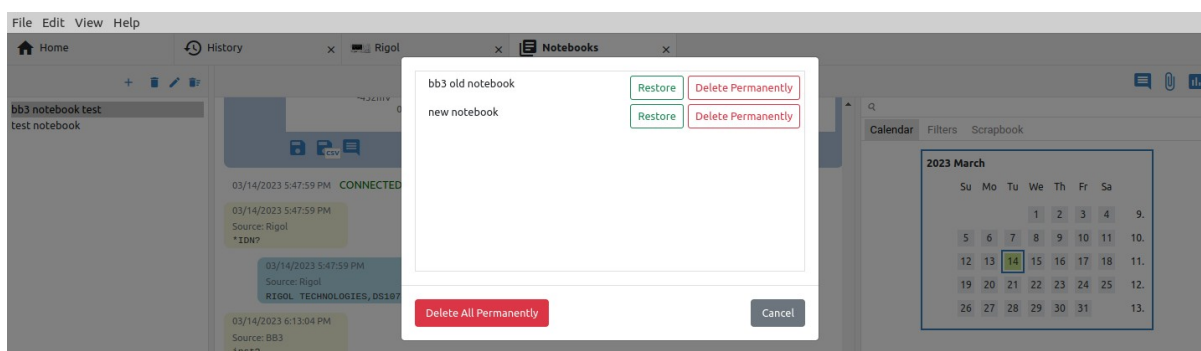

Fig. 11: Deleted notebooks
Create a new blank notebook or import a notebook file. When creating a new notebook, you will need to enter a name. To import data into a notebook, use the Notebook option in the instrument's *Terminal*, as shown in Fig. 11: (1) go to the *Terminal* tab in the *Action bar*, (2) select one or more items and (3) export them to a notebook file, a new notebook or an already created notebook.
Notebooks that have been removed from the list are not immediately deleted from the database. This option enables the display of all notebooks (Fig. 11) that have been removed from the list and offers the possibility to restore (return to the list) or permanently delete the notebook.